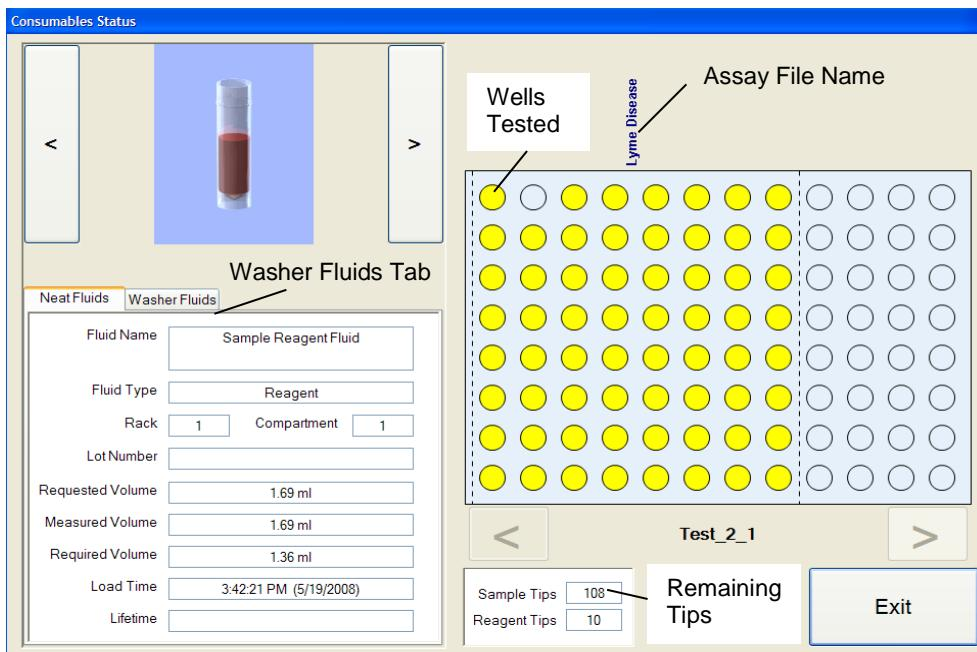

Figure 6-12: Consumables Status Screen
2. The Consumables Status screen (Figure 6-12) will display the name of the reagent, the reagent volumes, the number of tips left, and which assay is running.